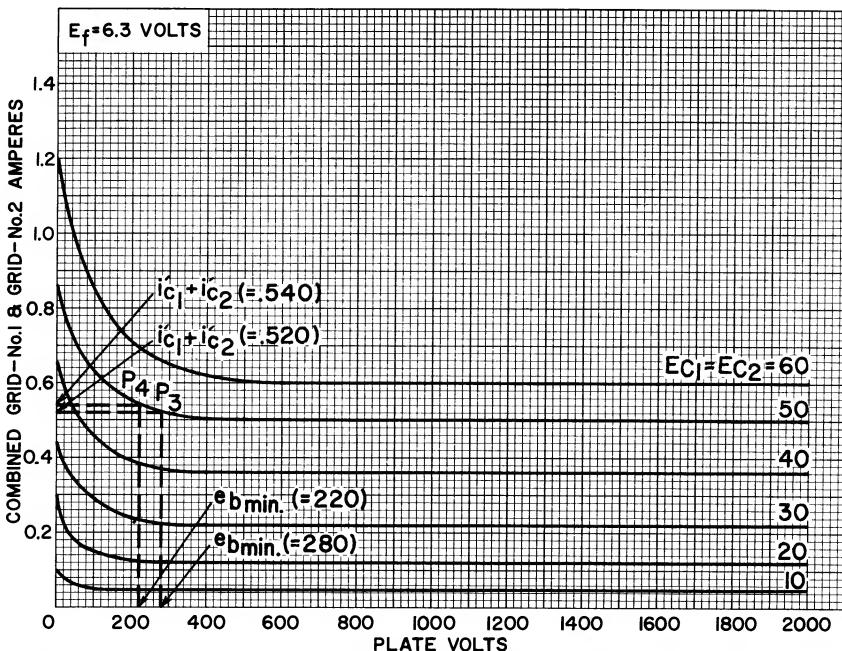

Figure 2: Typical grid characteristics for type 7094 triode connection (grid No. 1 connected to grid No. 2.)
(7) Select a point $P3$ on knee of one of the curves shown in Figure 1 at which i'_b equals 0.642 ampere. At this point, e_{cm} is + 50 volts and e_{bmin} is 280 volts. From the curves shown in Figure 2, $i'_{c1} + i'_{c2}$ equals 0.520 ampere.